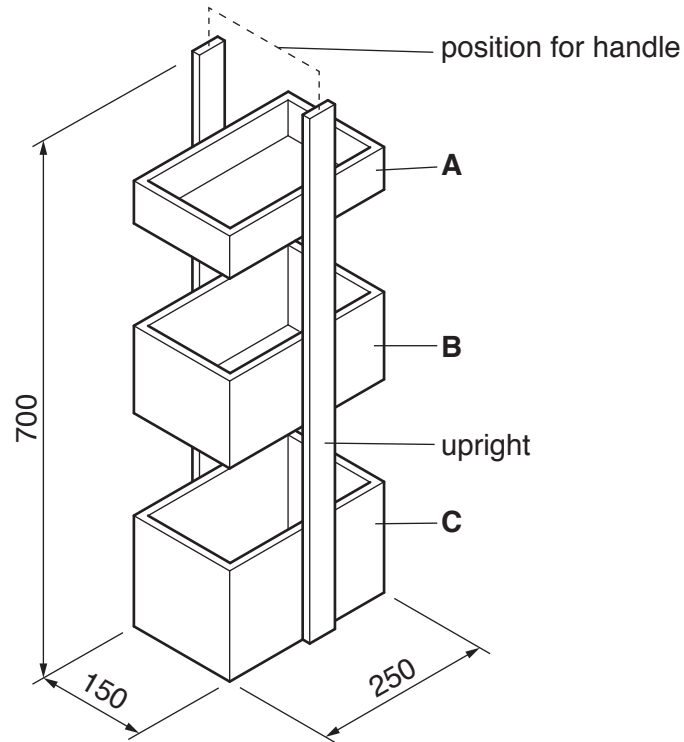

Fig. 9
- 11 Fig. 9 shows an incomplete design for a floor standing bathroom storage unit made mainly from softwood. The storage unit will be batch produced and the parts delivered to customers for self-assembly.
- (c) Use sketches and notes to show a design for a handle that could be fitted in the position shown in Fig. 9.